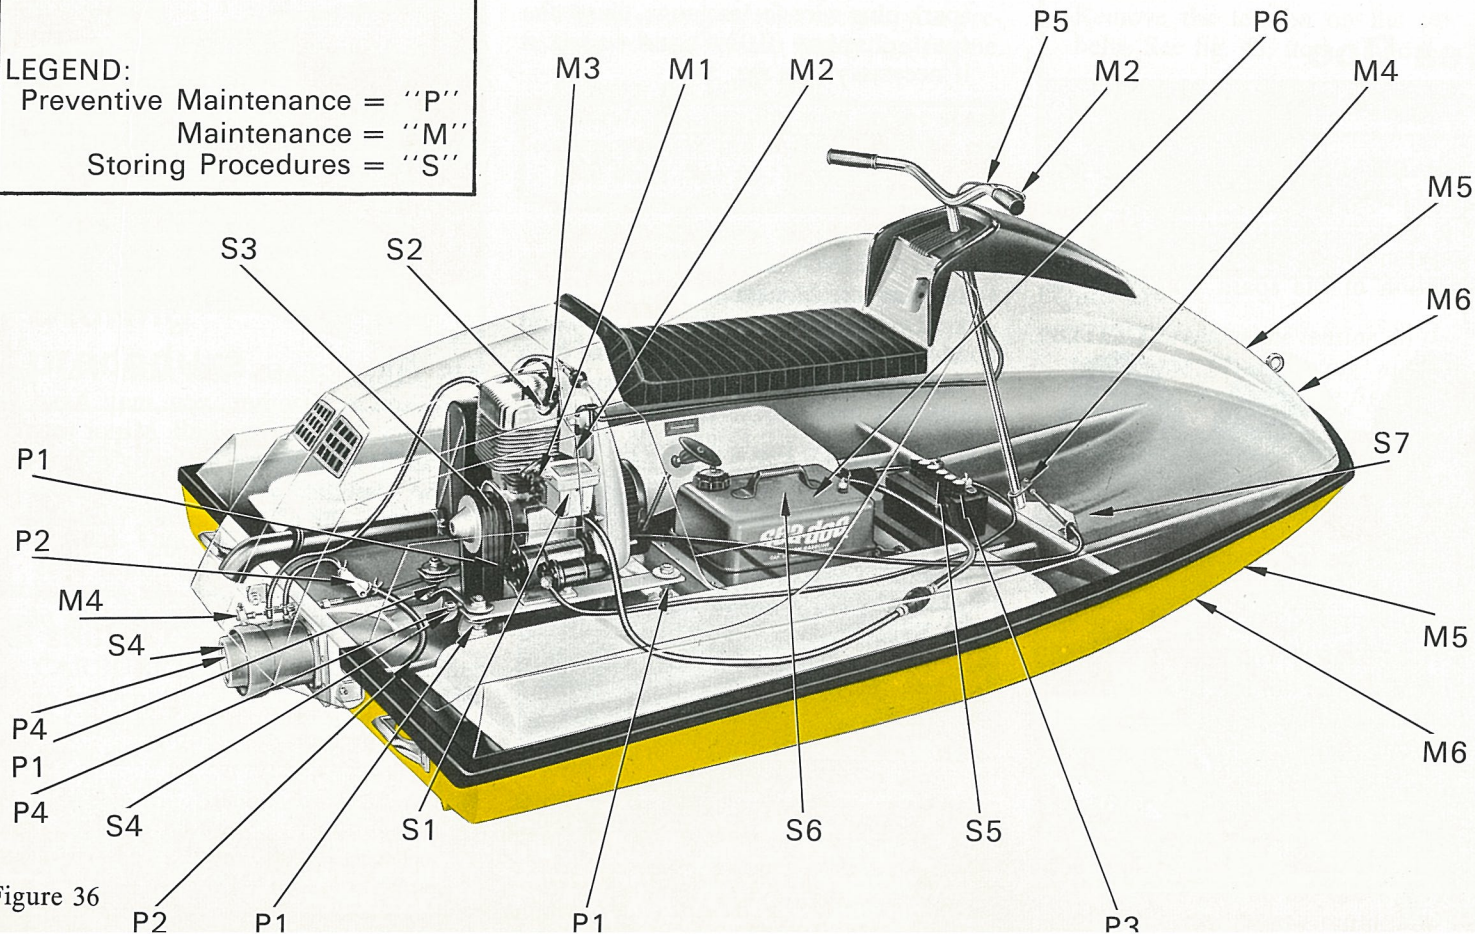

Figure 36
M4 STEERING ADJUSTMENT: The steering mechanism may be adjusted at (2) places (see fig. 36, items M4 and M4A). A turn buckle located at each end of the steering cable permits to increase or decrease the cable length.